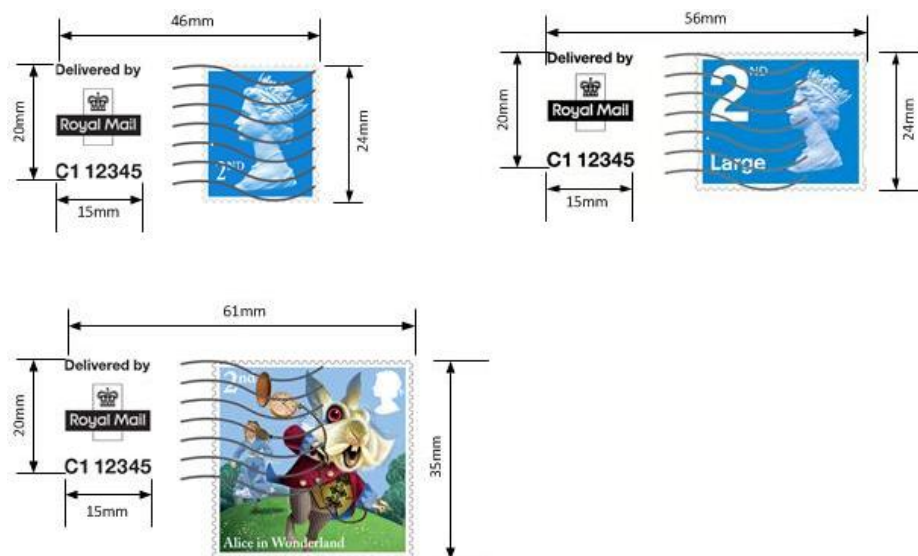
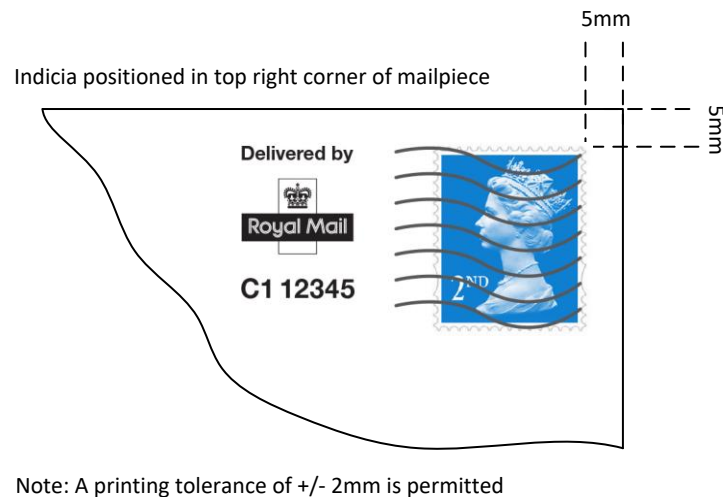

Figure 31: Access License Number positioning and dimension requirements for Digital Stamp Indicators
Figure 32: Digital Stamp Indicator layout and positioning
- b. You must ensure that the correct Access Licence Number (C9 number) relevant to the Access Contract you use for the Posting is added to the artwork in the position detailed in Figure 31 and Figure 32 below.
- e. Artwork must meet the exact dimensions of the Digital Stamp artwork (see Figure 31 below).